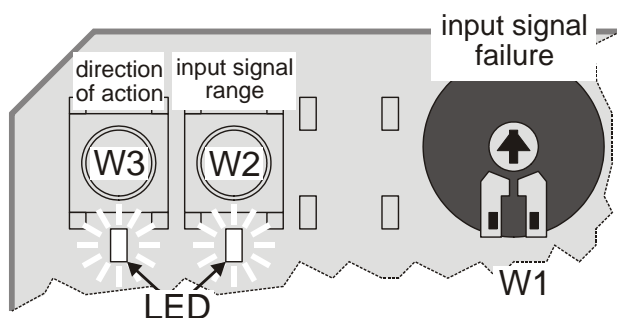

Fig. 1. Pushbuttons and potentiometer (default positions)
* Factory setting; can be reversed by pressing the right-hand pushbutton (W3) located on the PCB (see Fig. 1).
The direction of action can be reversed by pressing the left-hand pushbutton (W3) located on the printed circuit board (see Fig. 1). If the corresponding LED is lit, this indicates that the actuator stem will retract at a control signal of 0(2) Vdc (factory setting); if it is dark, the actuator stem will extend at a control signal of 0(2) Vdc.
The range of the analog input signal Y can be changed by pressing the right-hand pushbutton (W2) located on the printed circuit board (see Fig. 1). If the corresponding LED is lit, this indicates that the actuator is set for 0...10 V operation (factory setting); if it is dark, the actuator is set for 2...10 V operation.
Using the potentiometer (W1) located on the printed circuit board (see Fig. 1), the actuator can be adjusted such that in case of a signal input failure (e.g. a broken wire), the actuator will run to any pre-configured position between 0% and 100%. The factory setting is with the actuator stem in the central position (50%).